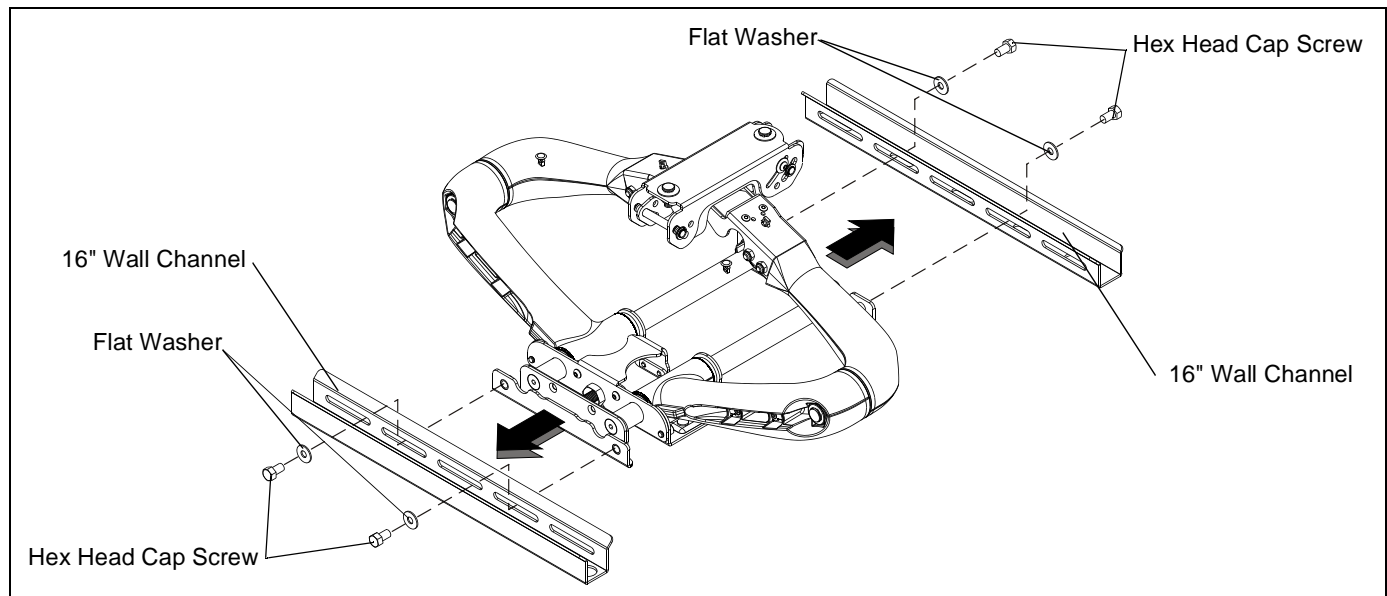

Figure 3: 16" Wall Channel Removal (faceplate removed for clarity)
4. Remove four HHCS and four FW securing upper and lower wall channels to mount. (See Figure 3)